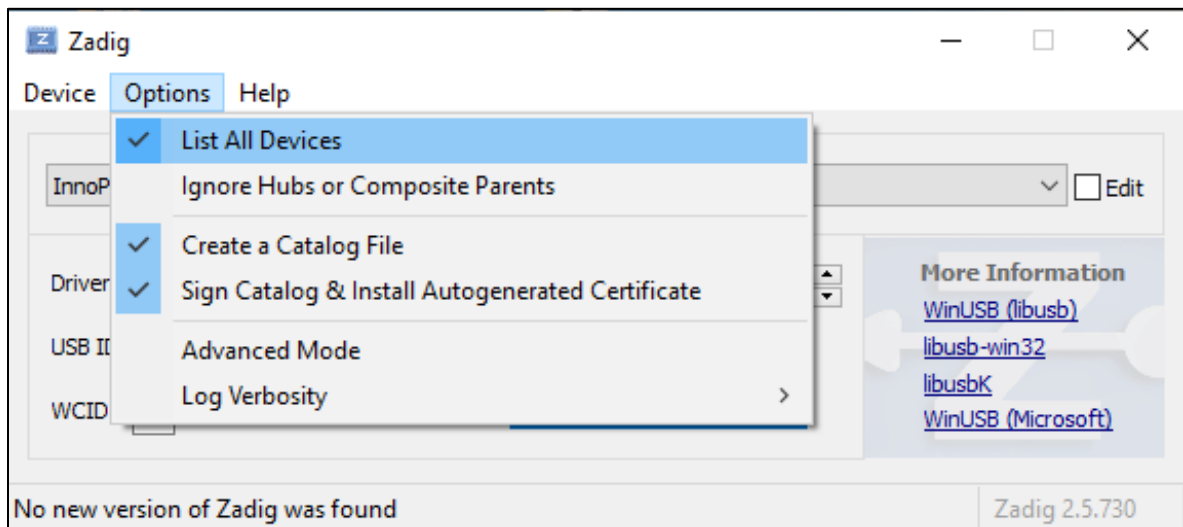

Figure 8: Listing devices in Zadig
4. Uncheck Ignore Hubs or Composite Parents as shown in Figure 8.